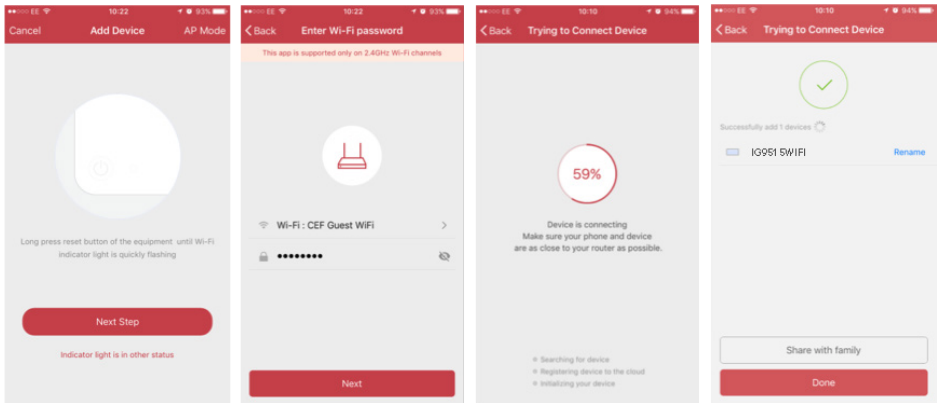

fig. 1
- Follow the steps on your screen to add the device (fig. 1)